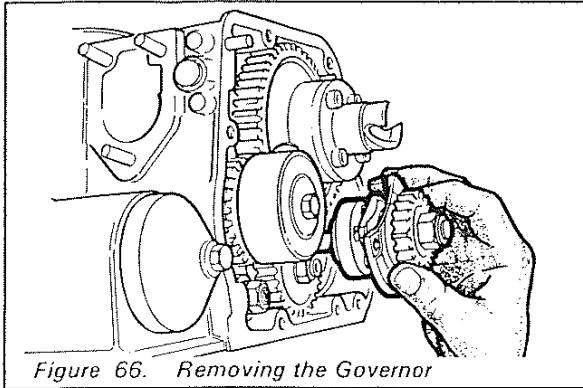

Figure 66. Removing the Governor
- Turn the crankshaft sufficiently to ensure one of the 'flats' on the assembly will clear the camshaft pinion gear teeth as shown in Figure 66 on page 58.